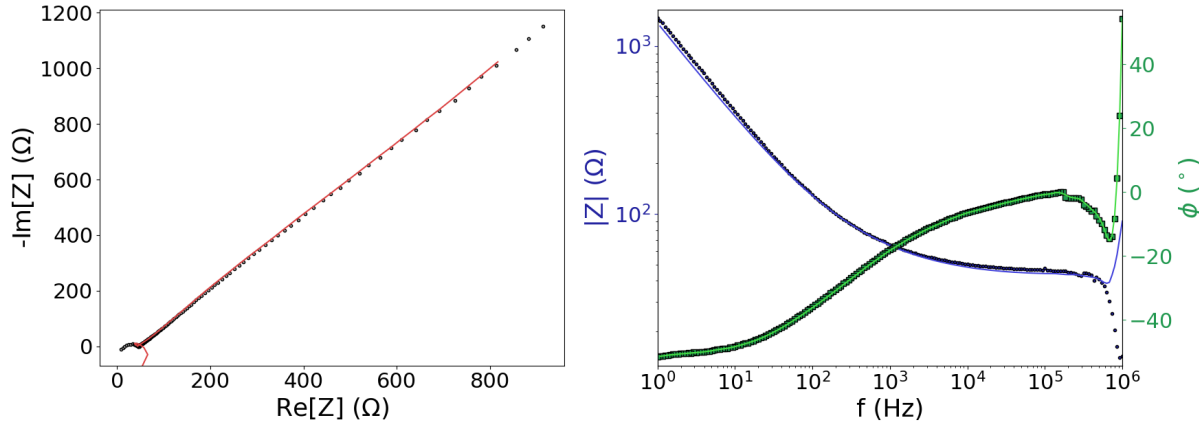

Figure 16: Z-HIT transform of the spectrum in Figure 15.
4. Click the **Calculate Z-HIT impedance** button. The phase will now be smoothed and the amplitude calculated. You may notice that the high-frequency phase data are not well-estimated. Adjust the window the length to 10 and try again. The result should look like Figure 16.